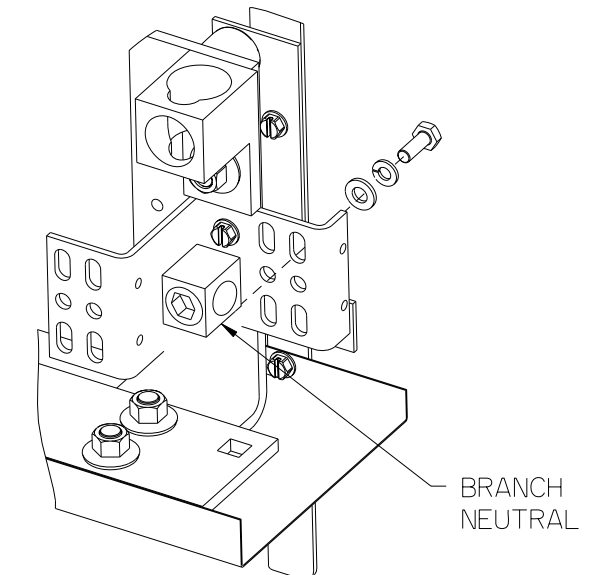

Figure 8
9. Reference fig. 8 - Installing the Neutral Lug Assembly. The Branch Neutral is located at the bottom of the "Z-rails", or mirrored at the top depending upon the feed cable location. The Neutral Lug Assembly (item 16) can be mounted, as shown, or any available lower location hole on either end of the Branch Neutral depending on cable feed location. Torque all hardware as specified on the rear of the deadfront.